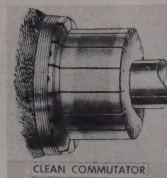

Figure 191 — Good Commutator, a Smooth Bronze Color
a. If the commutator is brown or bronze in color and the slots between the segments are deep and clean, the commutator does not require cleaning. (See figure 191.)